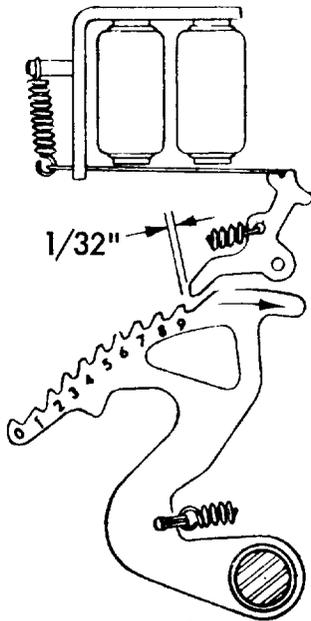

FIGURE 9
5. Unlatch the upper bail, and turn the machine over until the stop pawl is approximately  $\frac{1}{32}$  inch from the 9 tooth (Figure 9). Then check that all upper contacts are transferred (broken on the N/C side and just fully made on the N/O side).